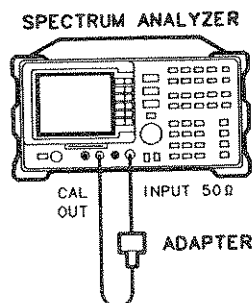

Figure 3-24. Fast Sweep Time Amplitude Test Setup
1. Connect the equipment as shown in Figure 3-24. *Option 001:* Omit the adapter and use the 75 Ω cable.